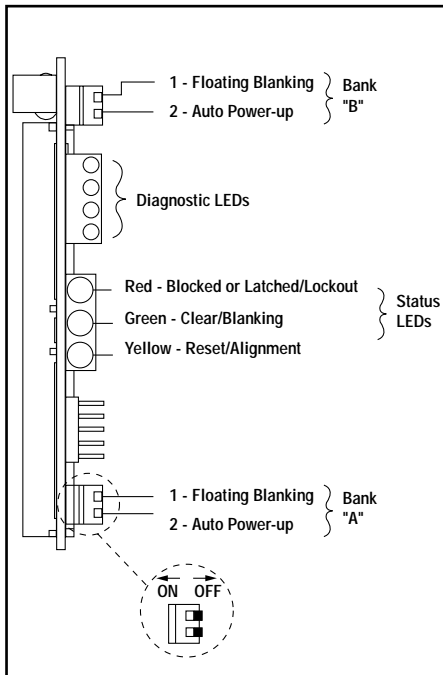

Figure 18. Controller configuration switches
The MINI-SCREEN control module should be configured before initial checkout and use. Control module configuration is done at the two banks of DIP switches located along the edge of the controller board (see Figure 18).
Locate the floating blanking (FB) configuration switches in bank A and B (see Figure 18). Set the switches identically at banks A and B. Be aware of the difference in minimum object sensitivity, penetration factor, and required light screen separation distance between the settings (refer to Sections 2.1 and 3.2.1). Floating blanking causes the MINI-SCREEN System to ignore multiple objects of up to the size listed in the table, below.
Locate the Auto Power-up (AP) configuration switch (see Figure 18) in banks A and B. If Auto Power-up is ON (switches pushed down) when power is applied to the MINI-SCREEN System, the controller will automatically reset after conducting and passing an internal system checkout. If the switches are OFF (pushed up), this initial reset is manual (via the key reset switch). Regardless of the setting of this switch, a key reset is always necessary to recover from an internal lockout condition. Latching output models also require a latch reset, following a key reset or following Auto Power-up. To select Auto Power-up, remove the protective coating on both switches and push them down, to the ON position. The switches must be set identically at banks A and B.